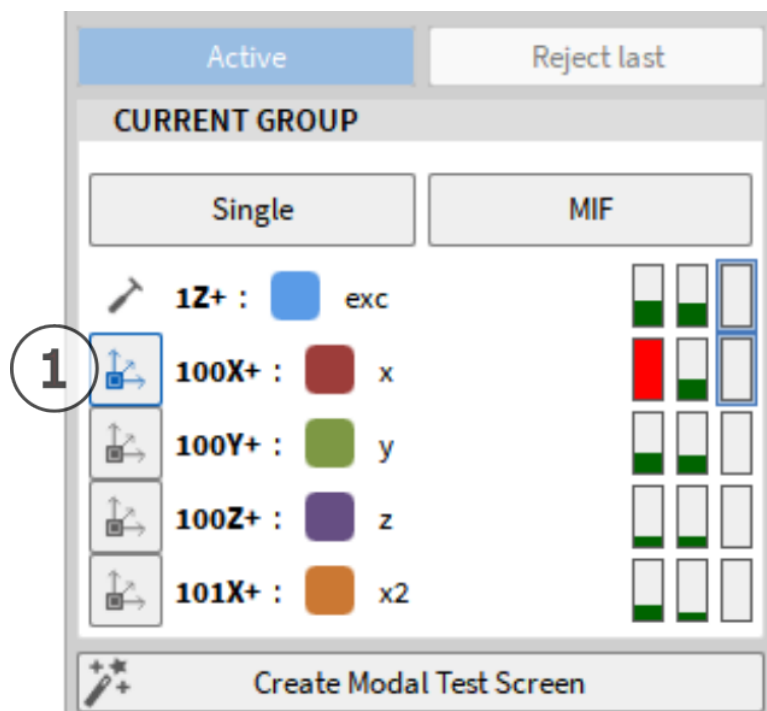

Fig. 3.19: Selection of response group
The individual response groups can be hidden, shown in Fig. 3.19 ① where a click on the axes symbol toggles the displayed data in the amplitude response, seen in figure 1.18 ⑭, the phase shift response ⑮ and the coherence function ⑯. In the first excitation of this group, the x response bar is displayed as red. This indicates an exceeding of the sensor range. Further details are described in the operation basics chapter.